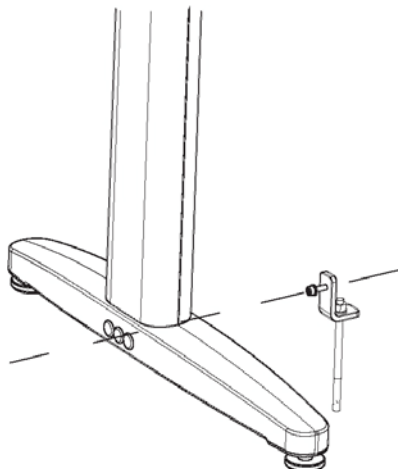

Figure C-20 Bracket and M6 x 30 Screws
- 2.) Mount table base to brackets with two M6 x 30 screws (Figure C-20).